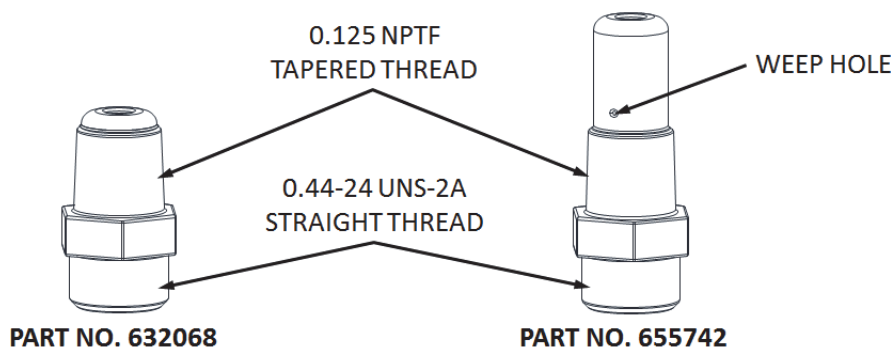

Figure 6-95. Induction Port Drain Connectors
Induction system drains are incorporated on all engines featuring cross-flow (induction tubes above) cylinders. Engine models with updraft induction (below the cylinder) incorporate drains in the induction tubes to allow excess fuel to drain from the induction system. A check valve is incorporated in the induction drain to isolate the fuel in the induction system when the intake valve opens. Naturally aspirated engines use a two-way check valve. Because the induction system on turbocharged engines can operate in a negative pressure state, a three-way check valve is required for the turbocharged induction. An improved drain connector (Figure 6-95) was introduced in 2000 for improved cold weather starting characteristics. If the cylinder drain terminates at the taper (Part No. 632068), the drain connector is no longer available, replace with Part No. 655742, or later, if unserviceable, or to improve cold weather operation.
2. At each 100-Hour/Annual Inspection, remove the connectors (Figure 6-95) from the cylinder head and clean according to the instructions in Section 10-3.1 and install serviceable, or new connector fittings in each cylinder according to the instructions in Section 10-3.2.